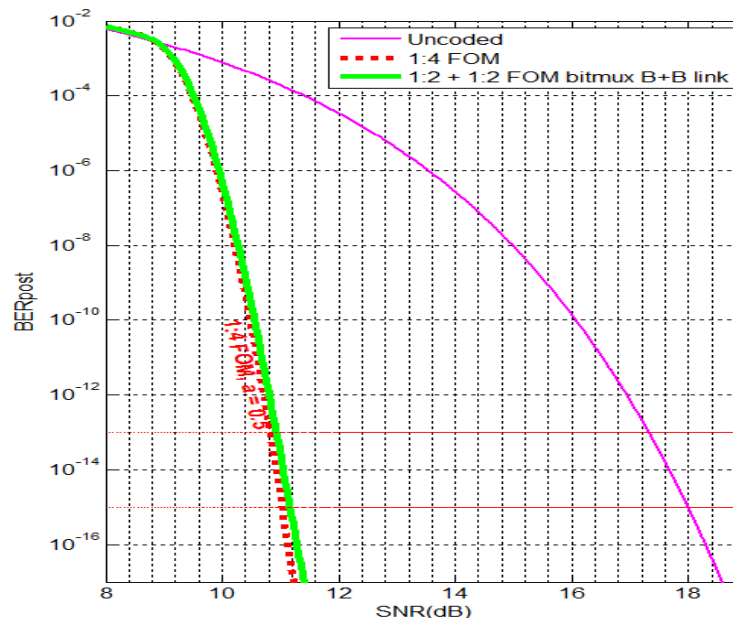

Figure 2: Burst on Optical w/ Burst(a=0.5) on Electrical links
- ❑ For xR4, The best FEC performance for burst+burst links is 1:4 FOM(a=0.5/0.2) as in Figure 2.